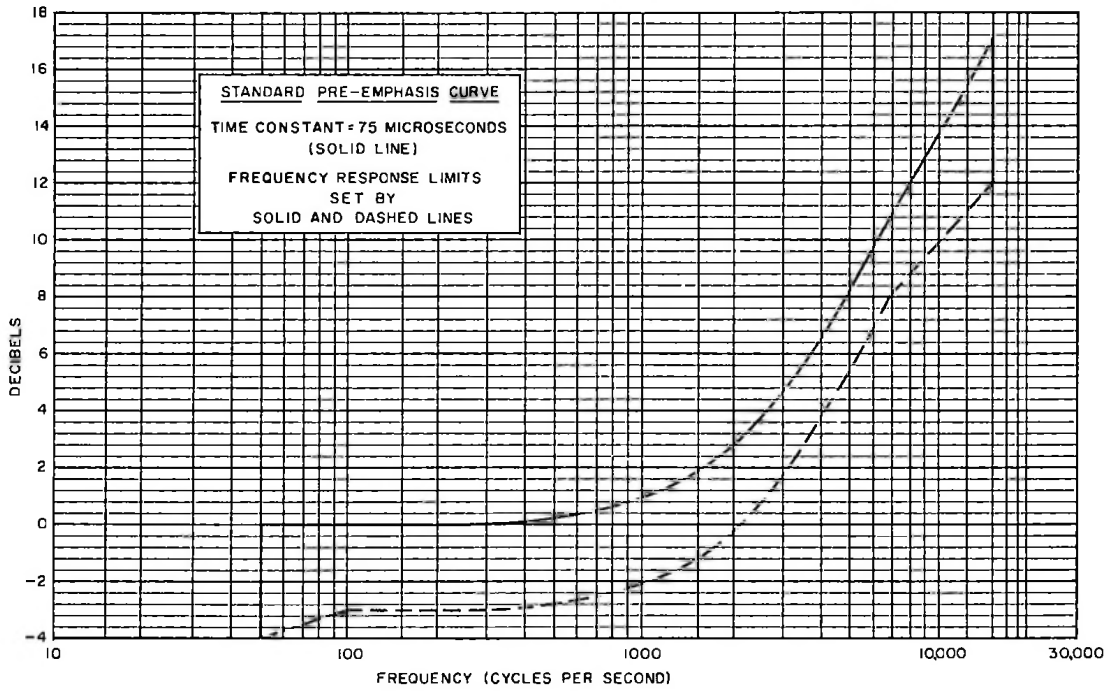

Figure 5-3. Audio Frequency Response Limits
b. Check the audio frequency response of the transmitter by modulating the transmitter at 50, 100, 400, 1,000, 5,000, 7,500, 10,000, and 15,000 cps for 25 percent, 50 percent, and 100 percent modulation. Audio frequency response is measured by keeping the percentage of modulation constant and measuring the magnitude of audio, at each frequency given, to give the desired percentage of modulation. The audio frequency response must fall within the limits given in figure 5-3.